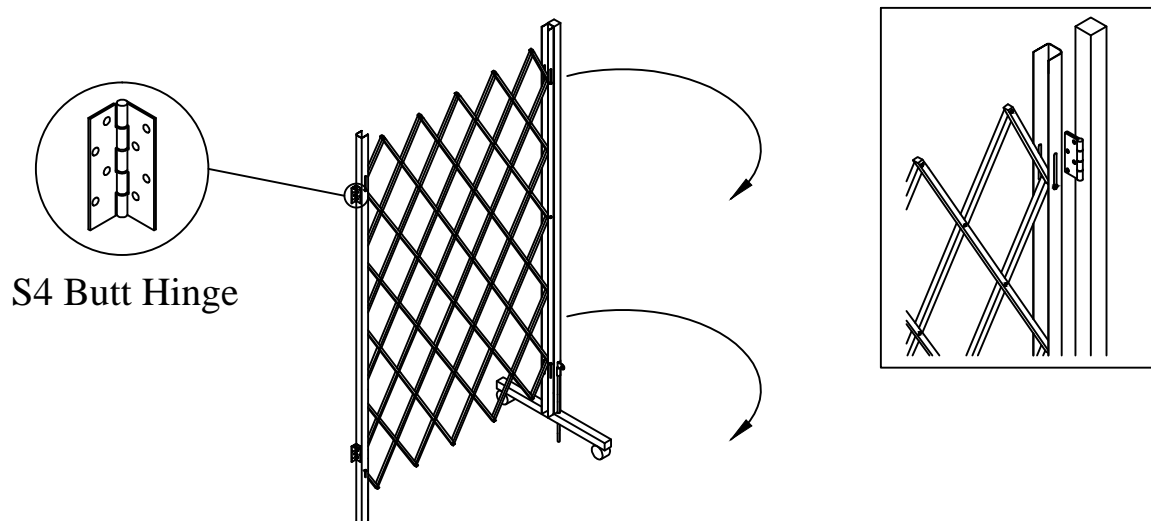

Fig 2.1.1
2.1.1 Where a Trolley system is being fixed to either one wall or 2 walls in the case of either a single or Bi-parting application, the S4 Butt hinges supplied with the Saftidor sash can be fixed directly to the channel of the Saftidor and then onto the existing wall. (Ensure that when fitting the hinges, the trolley system can swing in the correct direction required!). - Fig 2.1.1